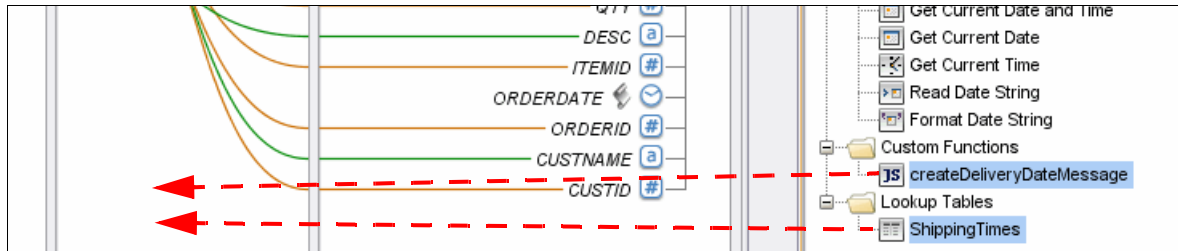

Figure 12-75 Dragging ShippingTimes and createDeliveryDateMessage
13. From the Functions tab, drag **Custom Functions** → **createDeliveryDateMessage** to the central pane, as shown in Figure 12-75.